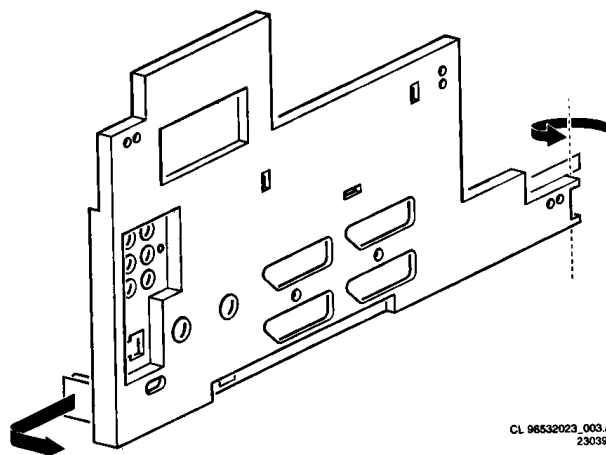

Figure 4-7
3. The I/O-cover plate can easily be removed. On the left side there is a release hook, at the right side there is a hinge-construction. (see figure 4-7).